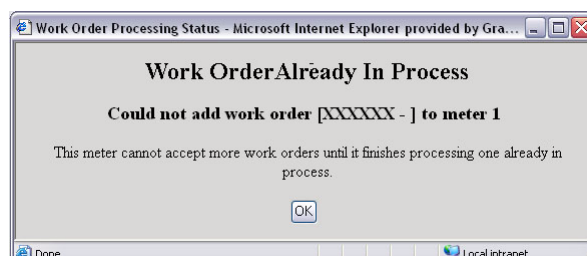

FIG. 57 Work Order Already in Process
2. **Work Order Already In Process** See FIG. 57. This message appears when the PC is attempting to send another work order. No RF communication is attempted when this screen appears. Attempt to send the work order again.